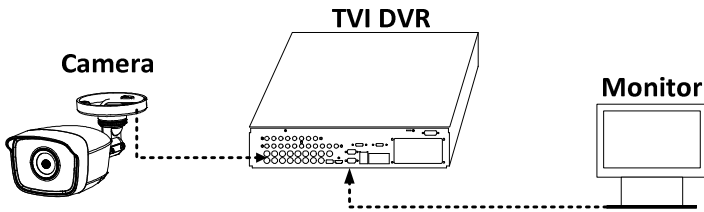

Figure 3-1 Connection
1. Connect the camera to the TVI DVR and the monitor, shown in figure 3-1.